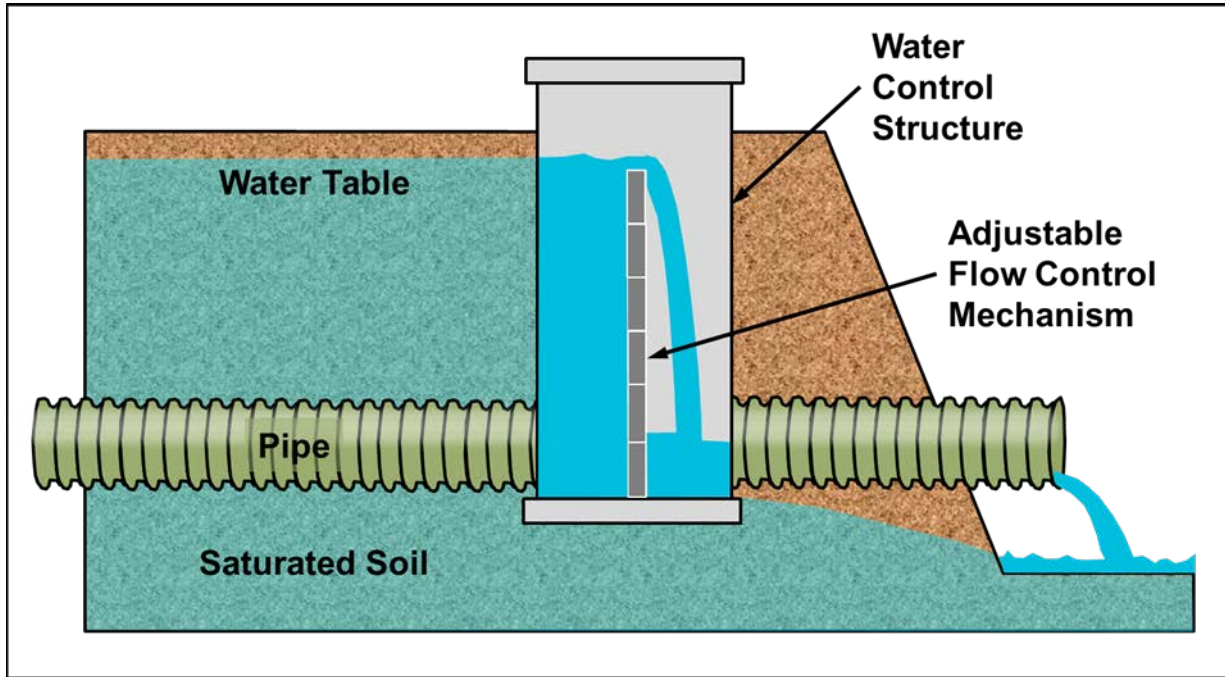

Figure 1. Outlet Control Structure Setting: Post-Harvest
For maximum water quality benefit during the period from post-harvest through pre-planting (so, from the fall, through the winter, and into spring), the current recommendation is to set the control structure outlet elevation within six (6) inches of the field surface. Note that this might cause surface ponding in depressional areas of fields (Frankenberger et al, 2006). This is typically the highest setting of the year, of the outlet control structure. Figure 1 depicts the setting of an outlet control structure during the period from post-harvest to pre-planting.